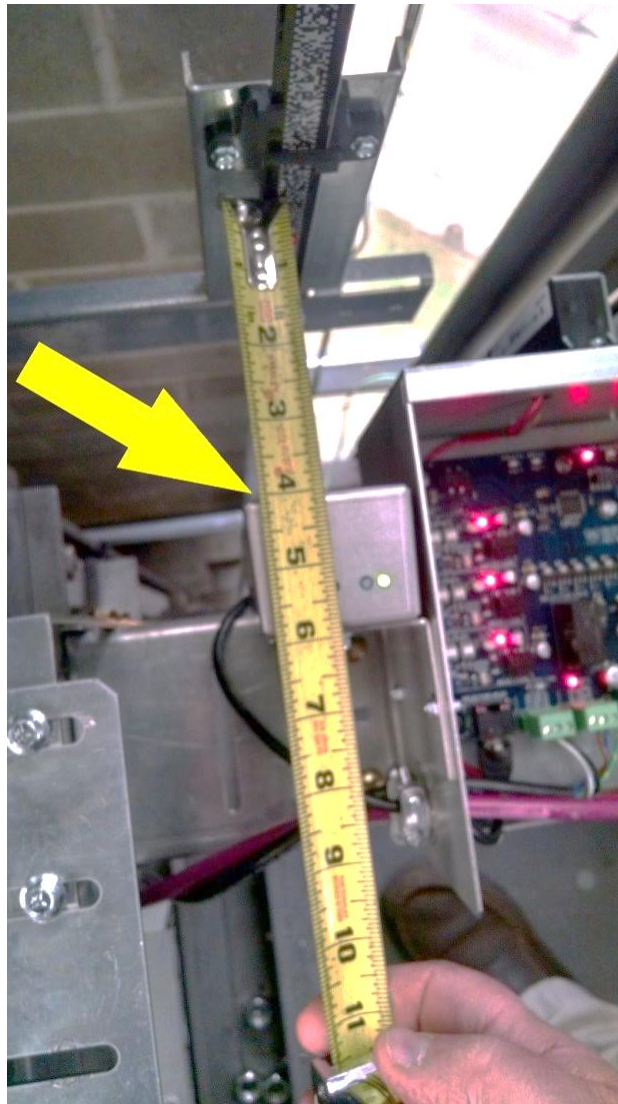

Figure 2-13: APS Camera 4 Inches from the Encoded Tape
- The face of the APS camera should be 4 inches from the face encoded tape. See Figure 2-13.